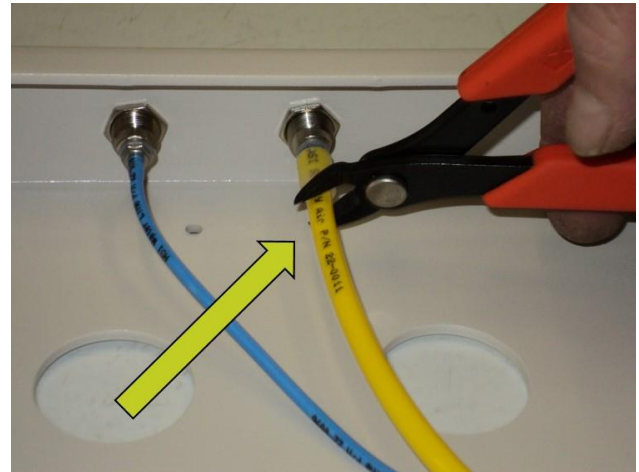

Fig. 1
4. In the back of the cart, locate and cut 1/4" yellow air line as close to the barb as possible using side cutters or scissors. Remove clear plastic sleeve and set aside. (Fig. 1)